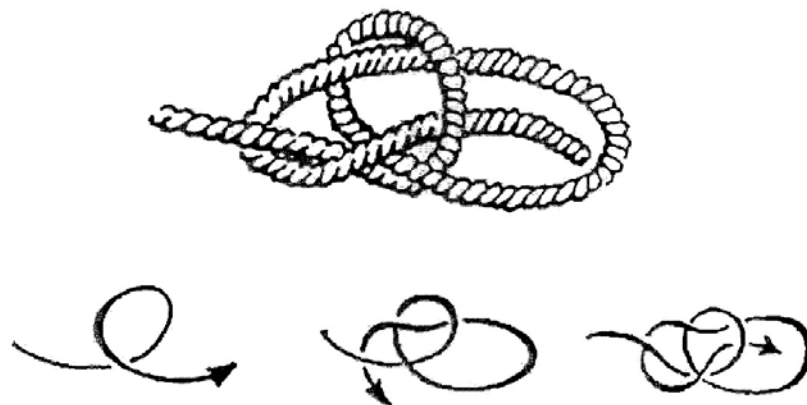

Figure 3-98
1. Tie a bowline knot (see Figure 3-98).